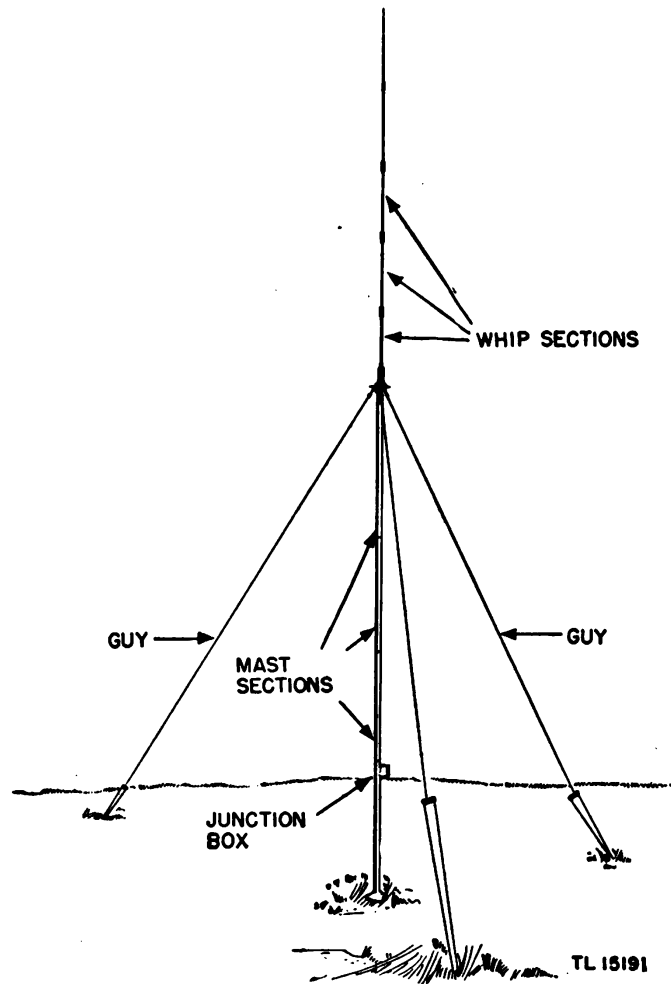

Figure 2. Antenna AN-78-A—general view.
(2) The addition of a whip antenna extends the length of one vertical antenna to 33 feet.
(3) These two masts are erected 21 feet 9 inches apart. The horizontal doublet antenna, consisting of two $7\frac{1}{2}$ -foot antenna sections with insulators and supporting wire, is installed between the two masts which serve only as a physical support for this doublet. A "twisted-pair" is used as a transmission line for this antenna.
b. Antenna AN-78-A (fig. 2) consists of one mast with a whip antenna attached and is the same (excepting the junction box) as the 33-foot antenna of Antenna Equipment RC-219-A. This antenna is used to cover frequencies below 2 mc.
b. CONTENTS OF CHEST CH-166. (1) *Antenna Equipment RC-219-A.*
c. ANTENNA AN-78-A (figs. 2 and 7). The procedure is the same as for assembling the 33-foot mast of Antenna Equipment RC-219-A except that a mast section (4857) with the single-socket junction box is used.